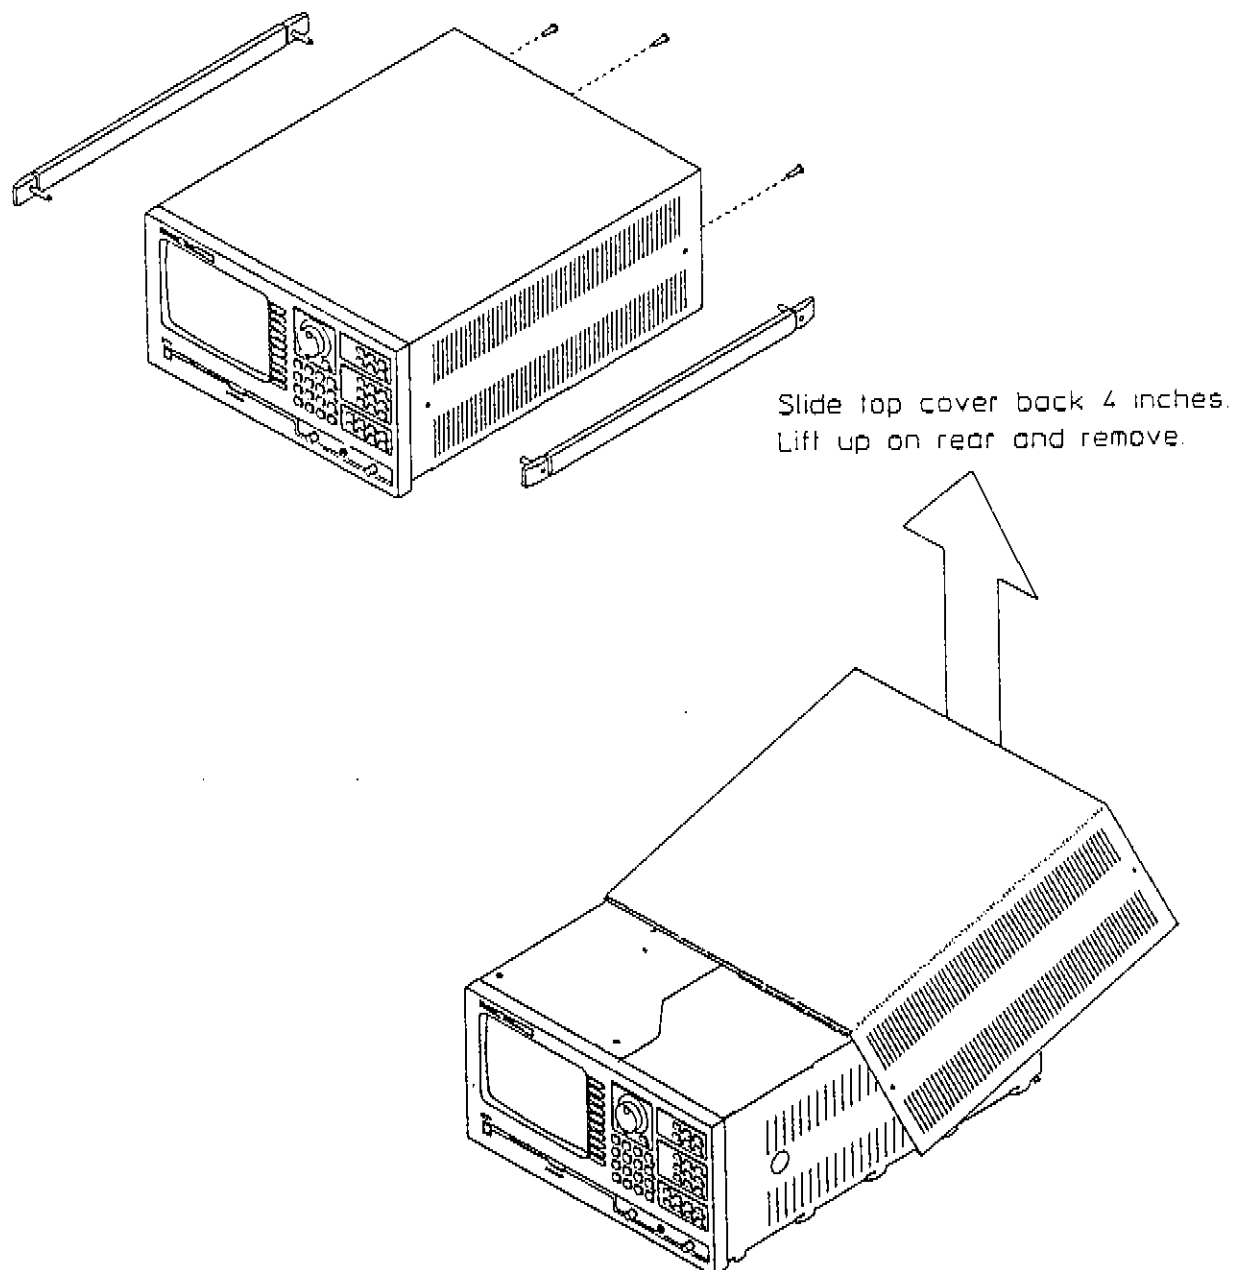

Figure 3-8. Removing Top Cover
- BNC Cables (3)
1. Set the power switch to STANDBY (⓪) and remove the power cord. Remove the top cover (see figure 3-8).